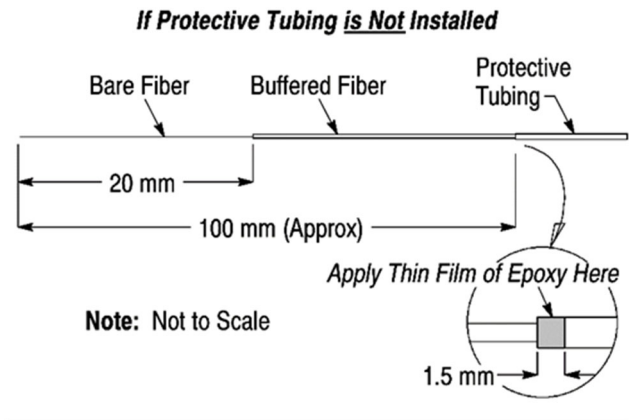

Figure 3
g. Using the fiber stripping tool, strip the buffered fiber to the dimension shown in Figure 3, exposing the bare fiber. Using a lint-free tissue or cloth dampened with the isopropyl alcohol or acetone, clean the bare fiber.
j. Apply a *thin film* of epoxy around the outside edge of the protective tubing to the width given in Figure 3.